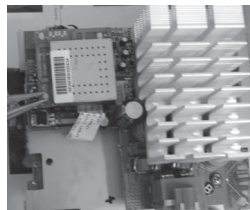

Figure 6
- 1) With a pincers to nip this space as shown in figure 6 and to take up this board.